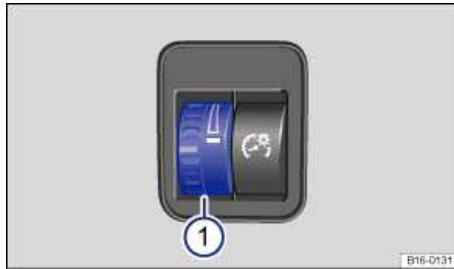

Fig. 87 To the left of the steering wheel: Thumbwheel to adjust instrument panel lighting 1.
When the lights are on, the brightness of the instrument panel lighting is adjusted by turning the thumbwheel ⇒ **fig. 87 (1)**.